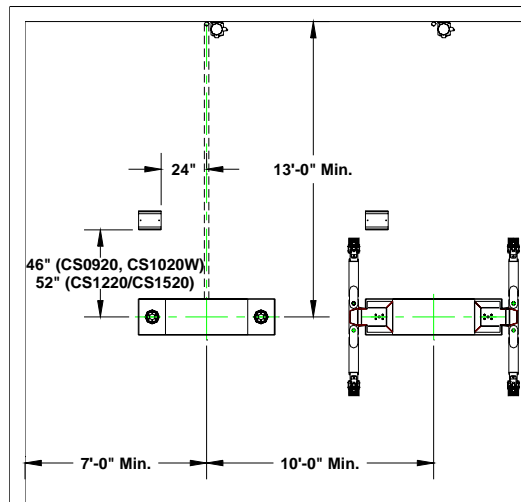

Fig. 1
Locate lift to allow plenty of working room on all sides. Allow room for workbenches at front of bay, aisles, lubrication equipment or other obstructions. Check overhead clearances. Ordinarily 12 feet is ample for automobiles. Observe the recommended minimums in Fig 1.
2. Using a chain hoist and tripod, fork lift, crane, etc. for lifting; lower the lift / containment assembly in the excavation being sure the PVC inlet hole is toward the power unit, until the top of the assembly is 1/8" to 1/4" above finished floor level and aligned with the previously determined center lines. Refer to Figures 1 and 3.
24. Locate and install the wheel-spotting pan using the anchors provided. Refer to Figure 1. These are recommended dimensions only and may vary according to the fleet of vehicles being serviced.
Be sure the adapters are in the lowered position and the arms are parked as seen in Figure 1 before attempting to drive on or off of the lift. Failure to do so may damage the adapters or vehicle.